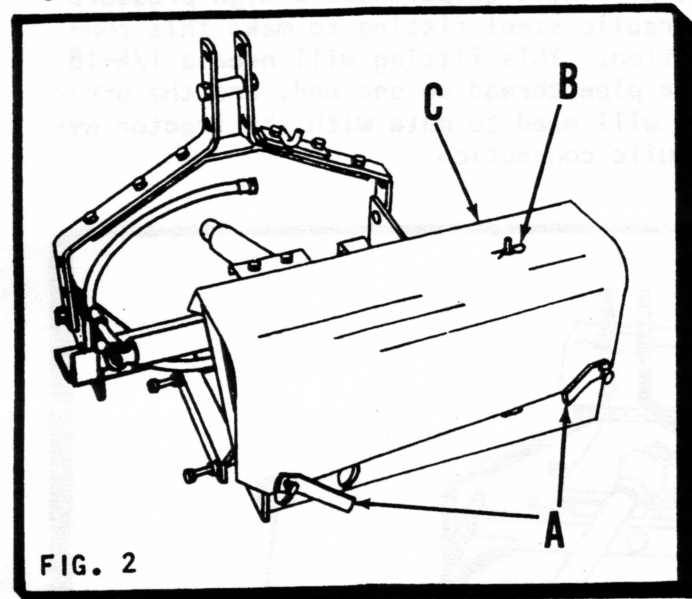

FIG. 2
Loosen two wing nuts (A), remove hair cotter pin (B) and lift off pulley cover (C) for access to main frame assembly. (See Fig. 2)